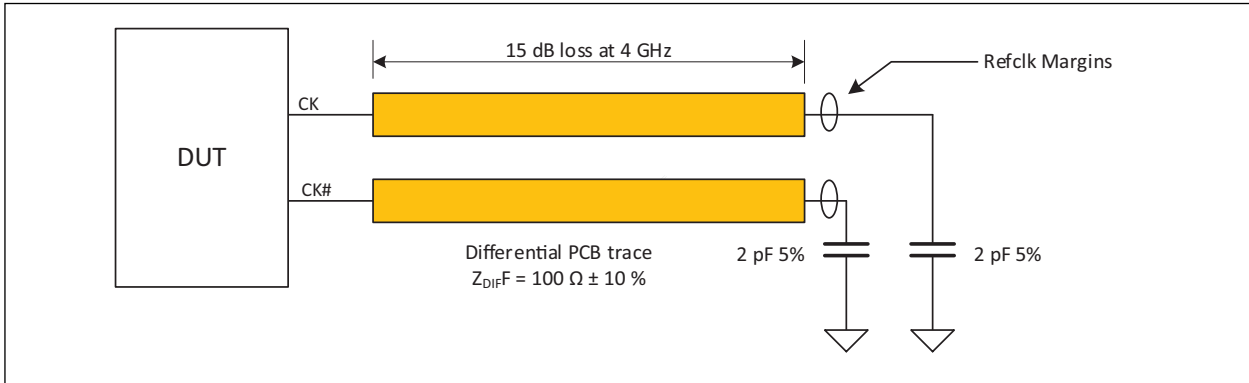

FIGURE 1-7: PCIe Test Load.
**9:** System board compliance measurements must use the test load card described in Figure 1-7. OUTx\_p and OUTx\_n are to be measured at the load capacitors  $C_{LOAD}$ . Single-ended probes must be used for measurements requiring single-ended measurements. Either single-ended probes with math or differential probe can be used for differential measurements.
**Note 1:** Measured into AC test load as per Figure 1-7.